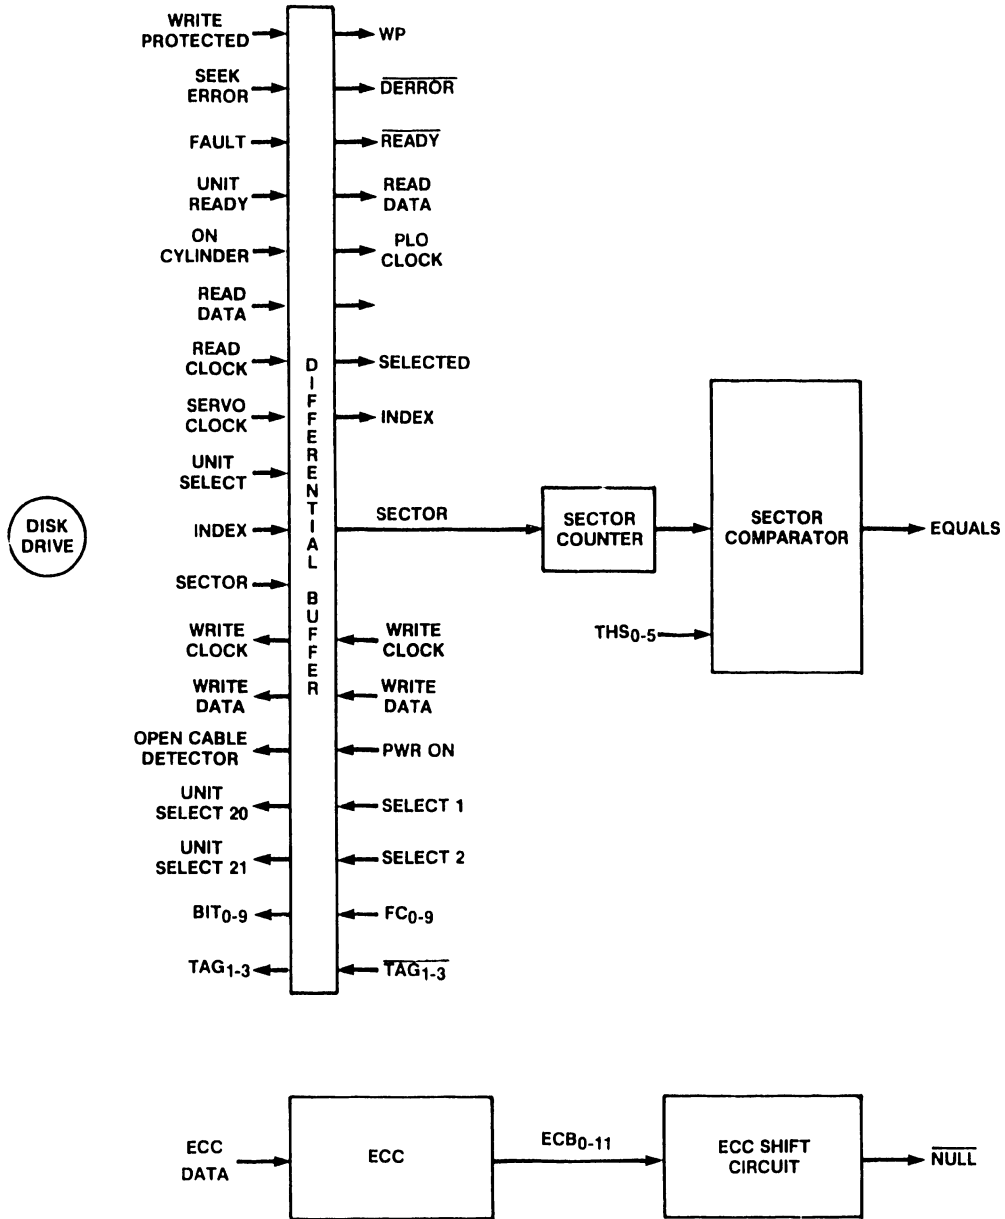

Figure 5-5. WL No. 210-7422 ECC/Device Interface Block Diagram
5.1.4 WL No. 210-7422 ECC/Device Interface Board (see figure 5-5)
Figure 5-5 is a write data flow diagram illustrating the hardware involved when data is read from the 2200, processed through the 2280 DPU, and written onto the disk. The following theory references schematic diagrams located in Appendix D at the end of this document.